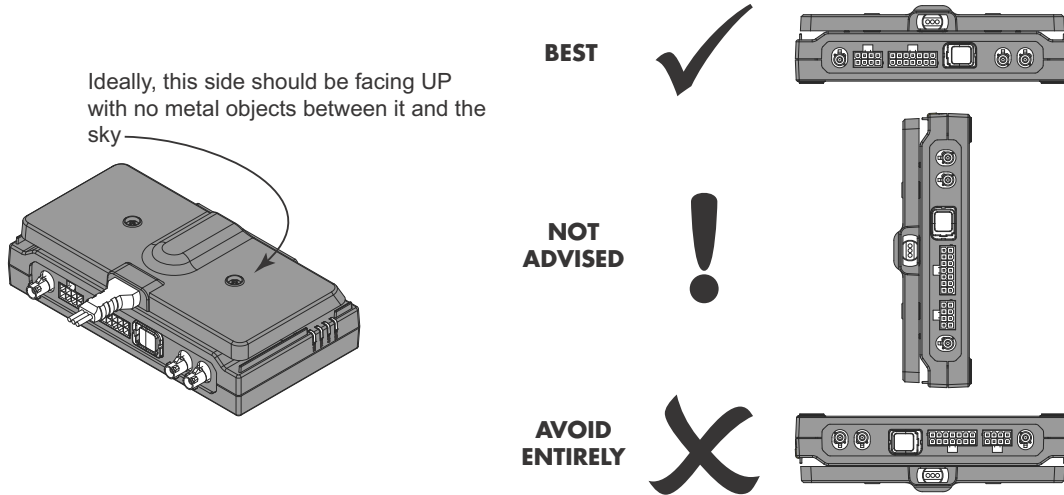
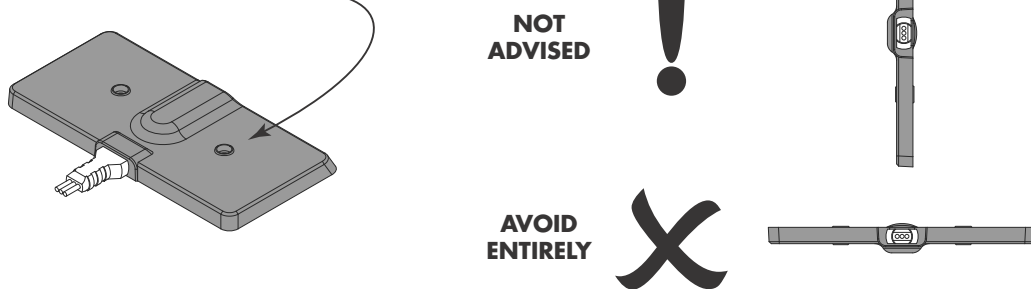

Figure 4: Optimal Unit Orientation (antenna attached to base)
Figure 5: Optimal Unit Orientation (antenna separated from base)
- 2) Antenna reception is critical for effective AMG operation, therefore the antenna must not be obstructed by metal objects. Optimal antenna orientation is shown in **Figure 4** and **Figure 5**.